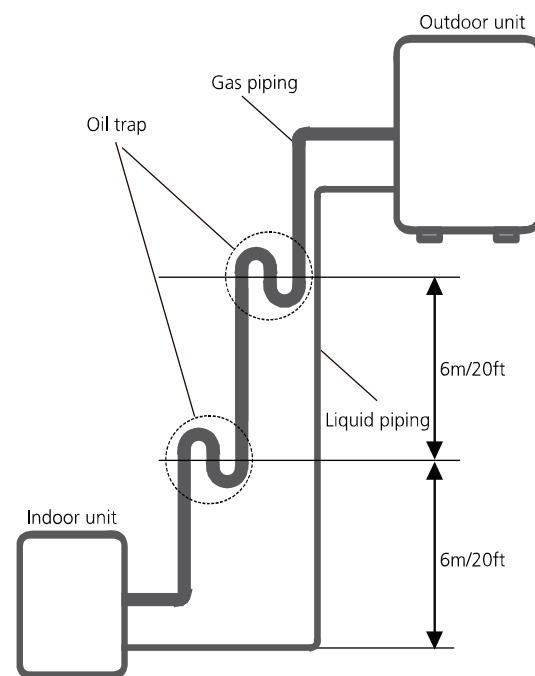

Fig. 7.3
-It is recommended that vertical suction risers not be upsized. Proper oil return to the compressor should be maintained with suction gas velocity. If velocities drop below 7.62m/s (1500fpm (feet per minute)), oil return will be decreased. An oil trap should be installed every 6m (20ft) of vertical suction line riser. (See Fig. 7.3)